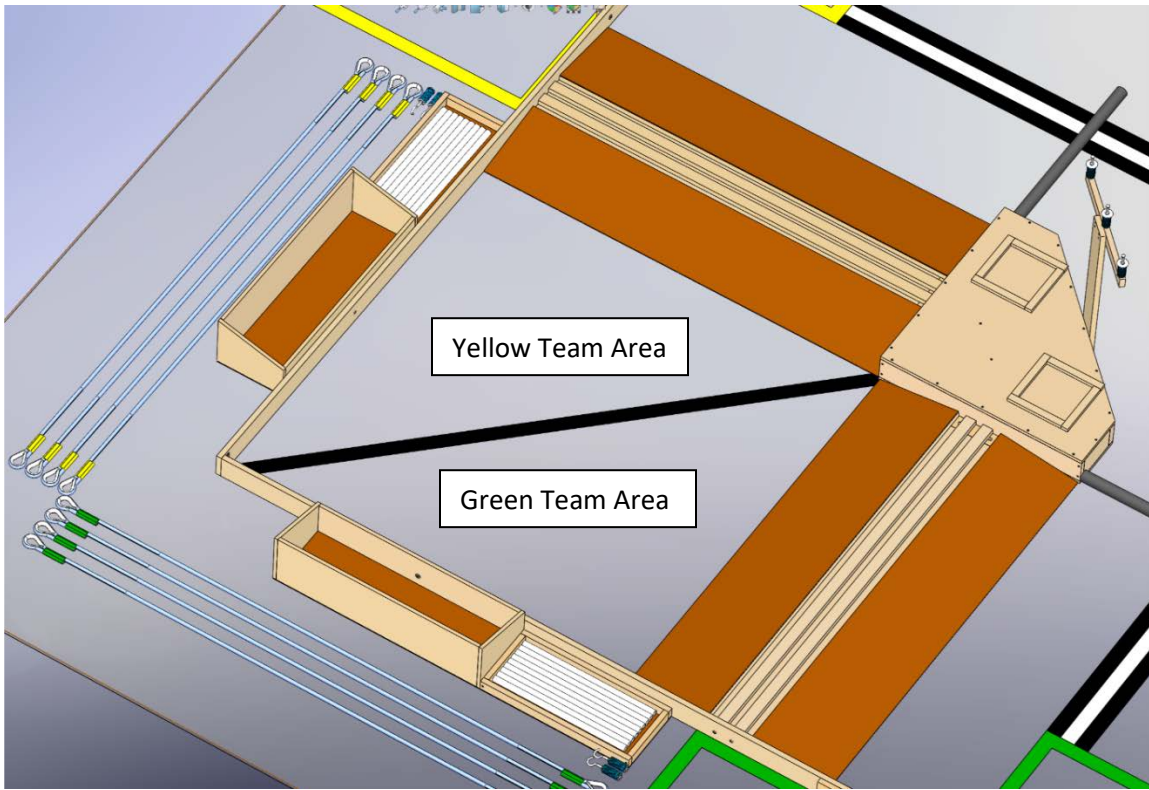

Figure 3.13 Debris Disposal Staging Areas
The Debris Disposal Staging Area is a triangular shaped area within each field quadrant that is a safe location for storing debris cleared from the field. This area is a staging area for debris prior to being loaded into the dumpster for eventual disposal. The staging area is defined by the inner edge of the conduit ramp, inner edge of the field boundary, and inner edge of the tape line (i.e., the light colored triangular section shown in Figure 3.13).
- a. There are twelve (12) total debris items that have been scattered around the field.
- b. There are three (3) debris items within each quadrant at the beginning of a match.
- o One (1) debris item in each quadrant lies in contact with a corner of one (1) of the transmission towers and the edge of the two-turn roadway.
- o One (1) debris item in each quadrant lies perpendicular to and over the one-turn roadway and in contact with the distribution tower base.
- o One (1) debris item in each quadrant butts against the two residential homes nearest the corner of the field.
- d. Points are awarded for debris inside the boundaries of a debris disposal staging area owned by the team at the end of the match. Refer to Figure 3.13 and Section 3.10 for clarity.